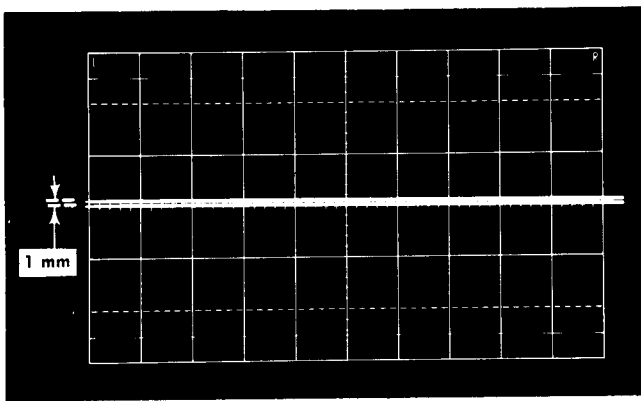

Fig. 6-3. CRT display showing maximum allowable amplitude when checking added accuracy in step 3. Sweep rate: 0.1 ms/cm free running.
d. CHECK—CRT free-running display for a null indication within a maximum deflection of 1 mm (see Fig. 6-3). This amplitude is equivalent to 1 mV or $\pm 1\%$ of the 100 mV applied signal.